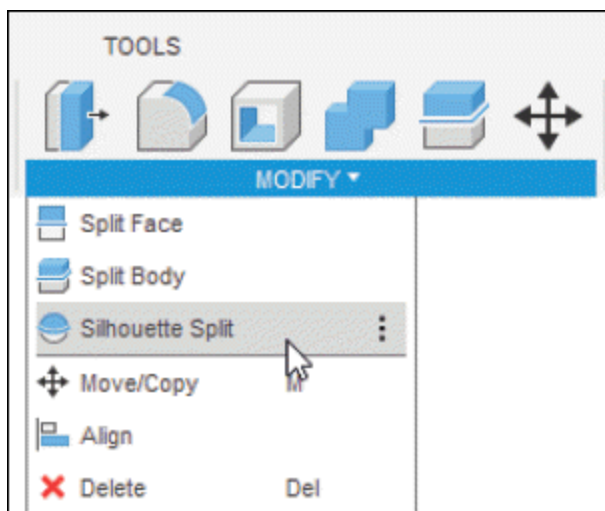
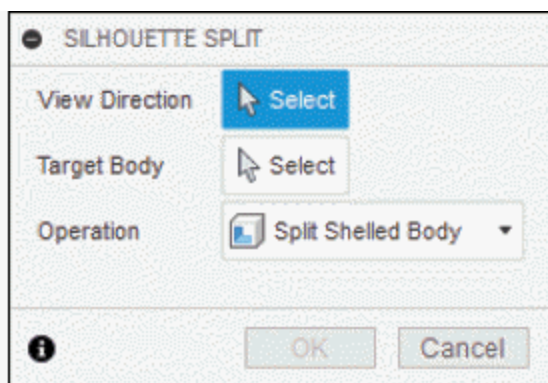

Figure-48. Silhouette Split tool
Figure-49. SILHOUETTE SPLIT dialog box
- Select **Silhouette Split** tool of **MODIFY** drop-down from **Toolbar**; refer to Figure-48. The **SILHOUETTE SPLIT** dialog box will be displayed; refer to Figure-49.